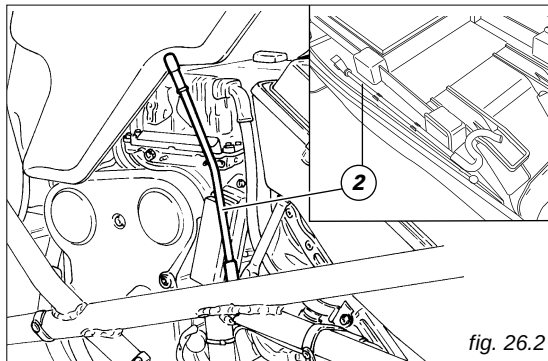

fig. 26.2
Remove the seat (page 25) and lift the hook (1). Lift the tank and unhook the service rod (2, fig. 26.2) from its seat under the seat. Place the tank onto the rod. When you have finished, reverse the above procedure to refit.